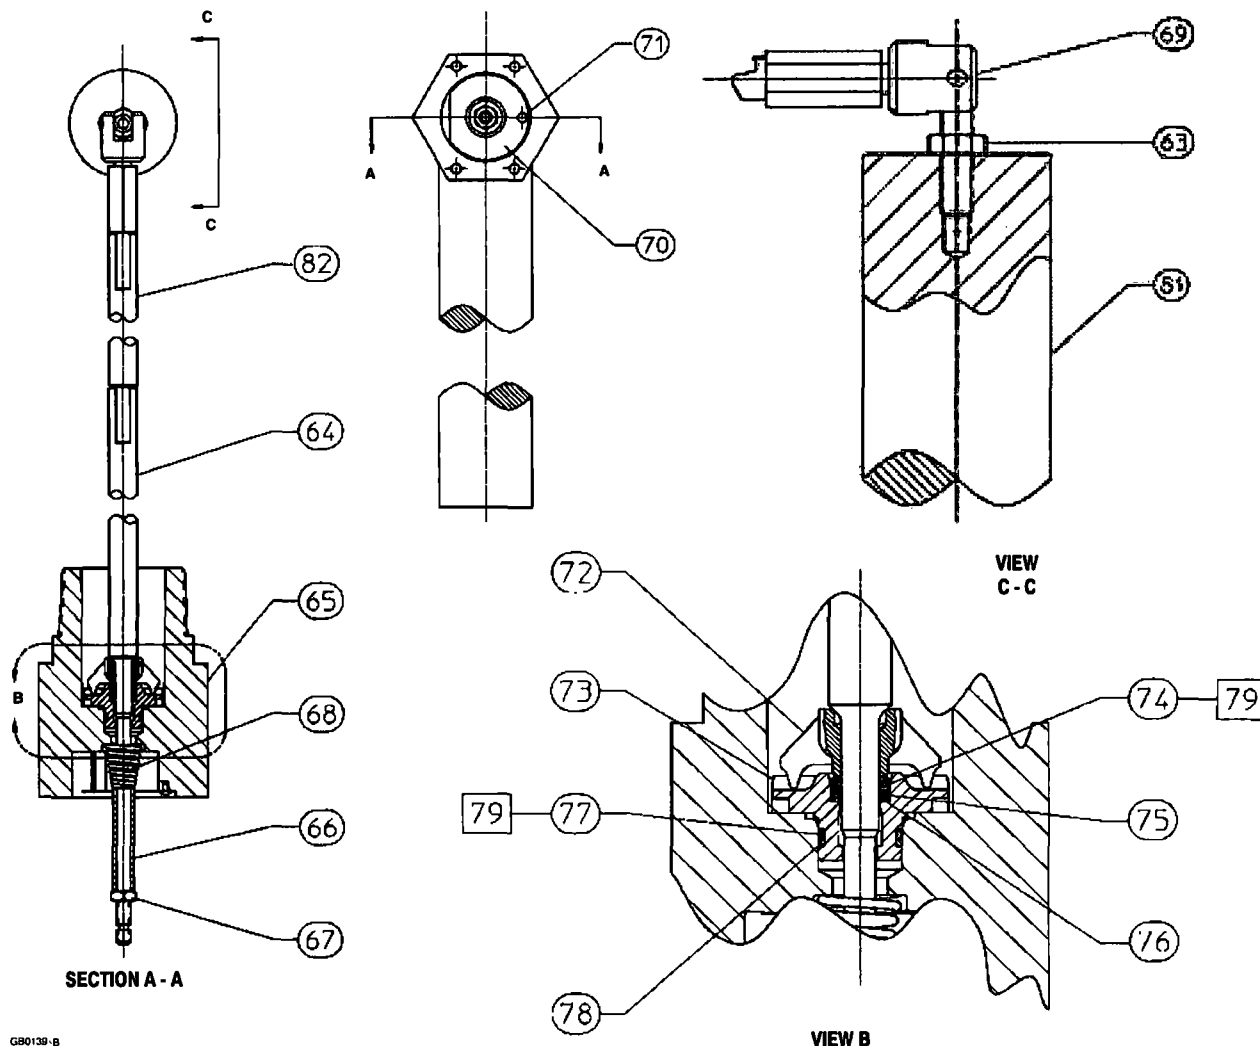

Figure 7. Sensor
Refer to figure 7 for part locations.
1. Check the supply pressure gauge (key 10) to be certain that the supply pressure is at the desired value. Adjust the supply pressure as required.
2. Adjust the displacer rod to the horizontal position with the spring adjustment (key 4).
3. Bounce the end of the displacer rod (key 64, figure 7) up and down to check that the sensor is operating freely.
2. Slide the hook end of the zero spring (key 5, figure 8) over and off the controller end of the displacer rod (key 64, figure 7).
Refer to figure 7 for key number locations unless otherwise indicated.
permit leakage of process fluids. To avoid personal injury or property damage from leaking process fluid, be sure the O-rings, anti-extrusion ring and backup ring are assembled in the order shown in figure 7.
1. Place the pivot body (key 72) on the displacer rod (key 64) so that it is positioned as shown in figure 7.
2. Slide the O-ring (key 74), anti-extrusion ring (key 75) and retaining ring (key 76) onto the displacer rod assembly (key 64). Be sure the O-ring, anti-extrusion ring, and retaining ring are in the order shown in figure 7. Slide the pivot base onto the displacer rod so that the points of the pivot body (key 72) will engage the slots in the pivot base (key 73).
3. Install the O-ring (key 77) and backup ring (key 78) into the groove on the pivot base (key 73). Be sure the backup ring is on the downstream pressure side of the O-ring as shown in figure 7.
4. Insert the displacer rod (key 64) into the vessel side of the sensor connection (key 65).